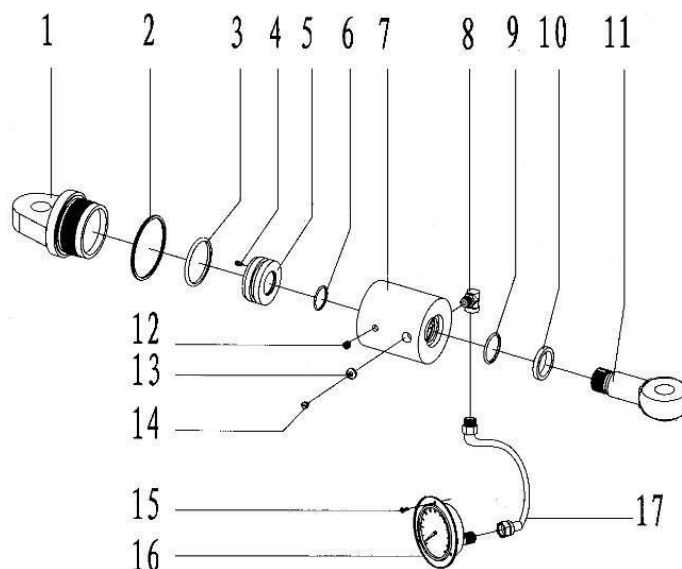

Fig 20
7.20 Pull cylinder assembly (Fig 20, Table 20)